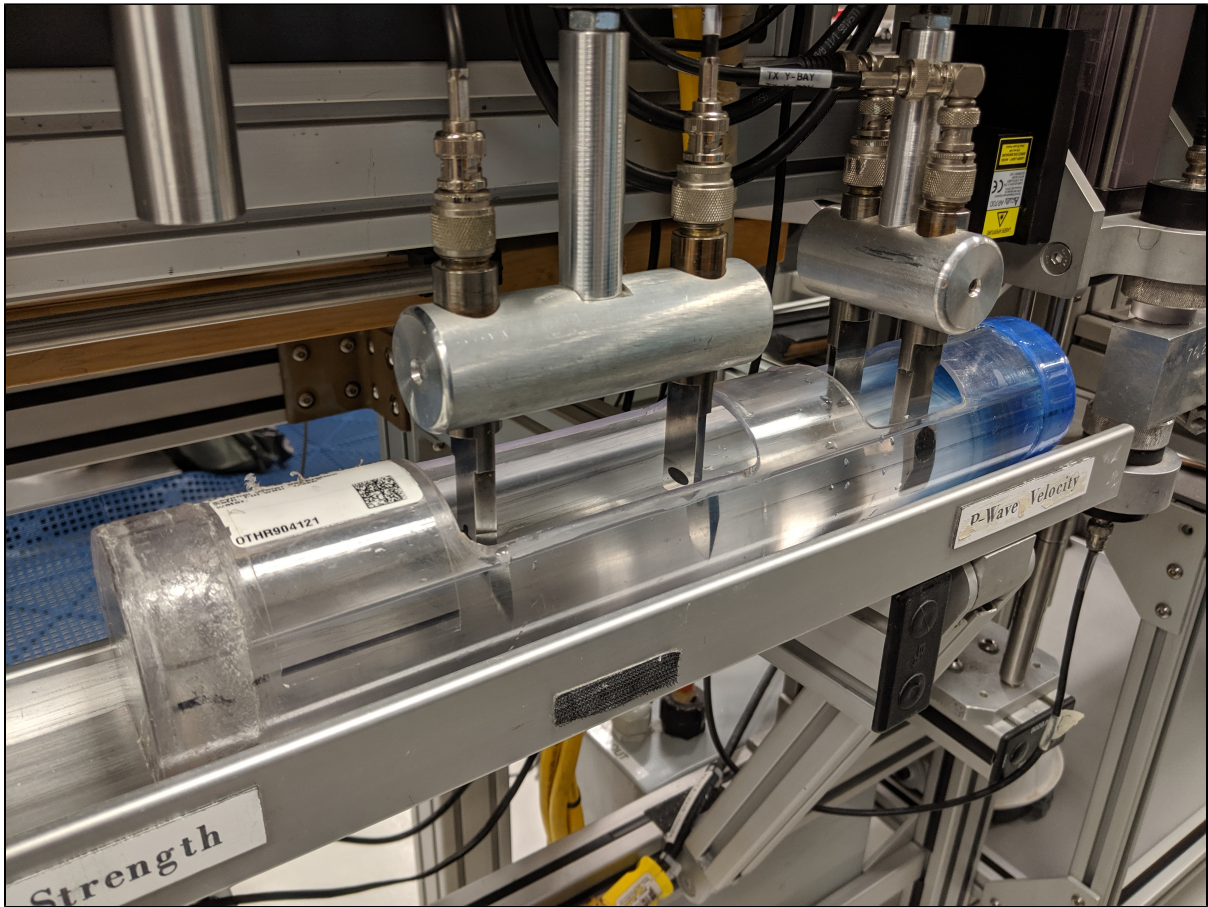

Figure 12. Bayonet Water Standard
1. Fill the bayonet calibration liner with DI water (**Figure 12**). The water level must be high enough that the black transducer pads on the bayonets can be placed below the water line without touching the liner itself. The water should be at room temperature if possible.